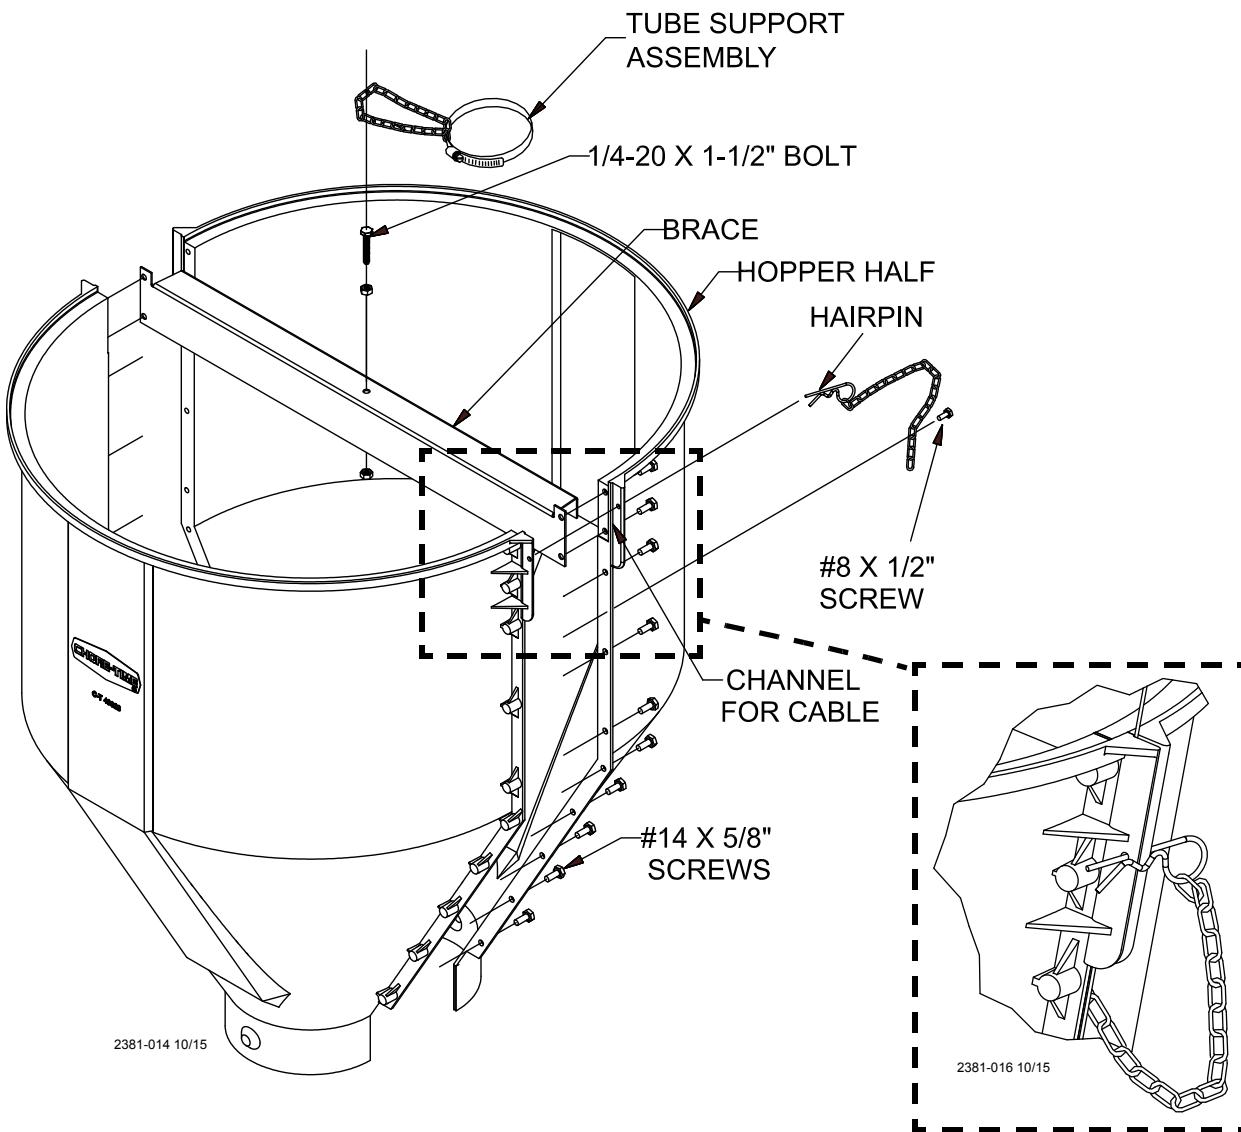

Figure 14.Hopper Assembly (Top)
1. Assemble the 1/4-20 x 1-1/2" bolt to the brace with two 1/4-20 nuts. One nut should be assembled under the brace with the other on top. This bolt is to provide a place for the tube support assembly chain to be hooked, see figure 14.
2. Assemble the 150 lb. hopper halves and brace as shown in Figure 14., using #14 x 5/8" screws (supplied in hardware package).
3. Assemble the #8 x 1/2" screws and chain as shown in Figure 14.